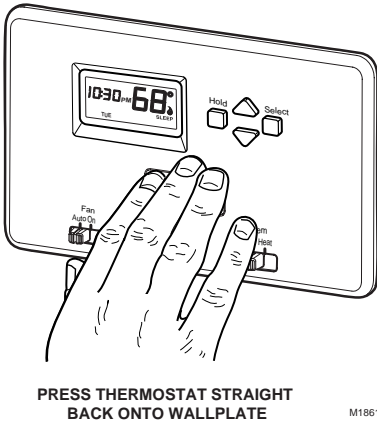

Fig. 10. Mounting thermostat to wallplate.
2. Slide the thermostat straight into the wallplate until it is flush against the wall. See Fig. 10.